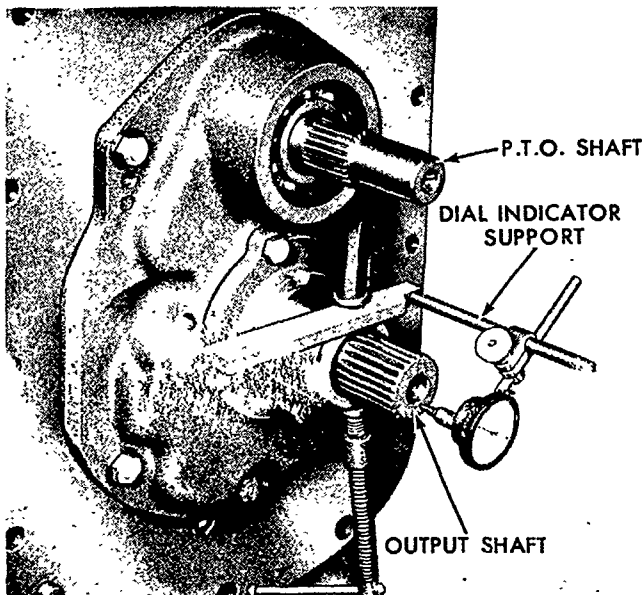

Figure 64
3. Mount the dial indicator support tool on the rear of the transmission case and install the dial indicator on the support so that the contact rests on the end of the transmission output shaft, as shown in Figure 64.
2. Remove the four bolts from the rear bearing retainer and remove the retainer. Refer to Figure 64.